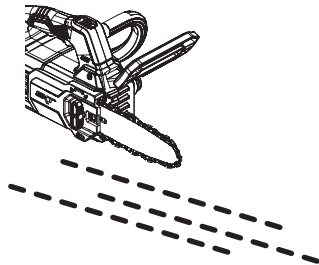

Fig. 11
1. Make sure the guide bar (13) and the saw chain (12) are in place when you check the oil delivery.
2. Start the product; keep it running at no load and check if the chain oil is delivered as shown in the figure (Figs. 11, 12).